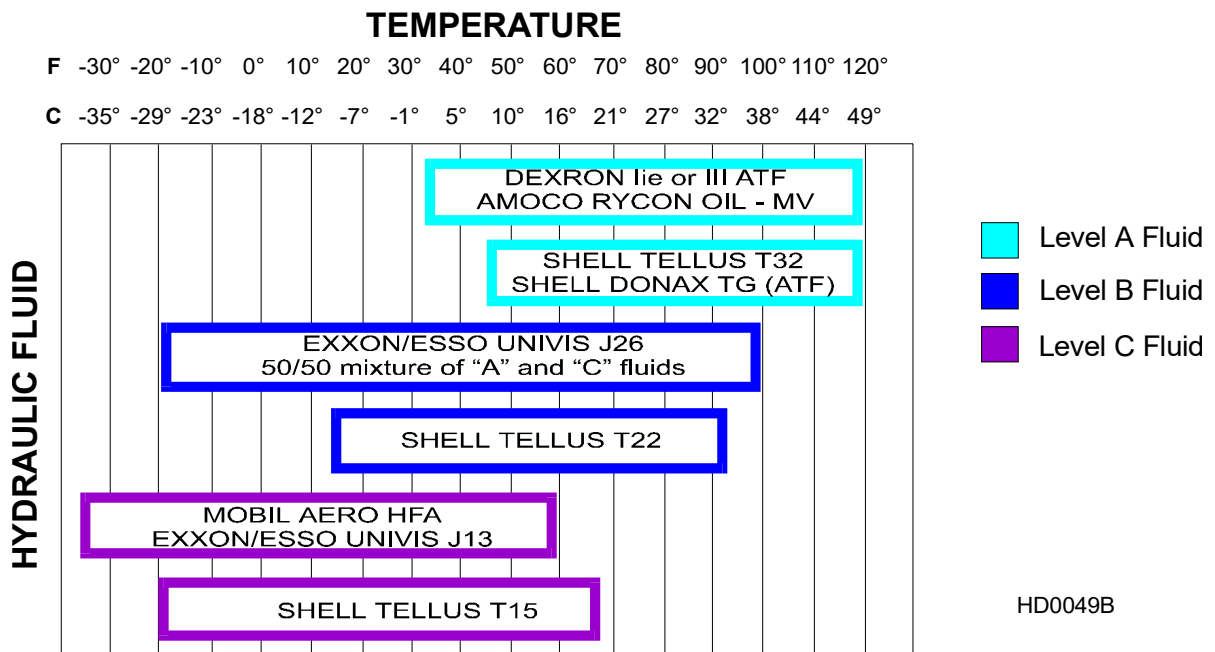

FIG. 3-10
**See Figure 3-10.** If you are operating in temperatures -20° to 100° F (-29° to 38° C), use an all-weather hydraulic fluid such as Exxon Unavis J26. For alternate fluids and/or other temperature ranges, refer to the chart below. Operating above the recommended temperature range of a fluid could result in excessive pump wear. Operating below the recommended temperature range could result in reduced hydraulic cylinder speed. To change fluid types, replace one gallon of the current fluid with one gallon of the alternate fluid.